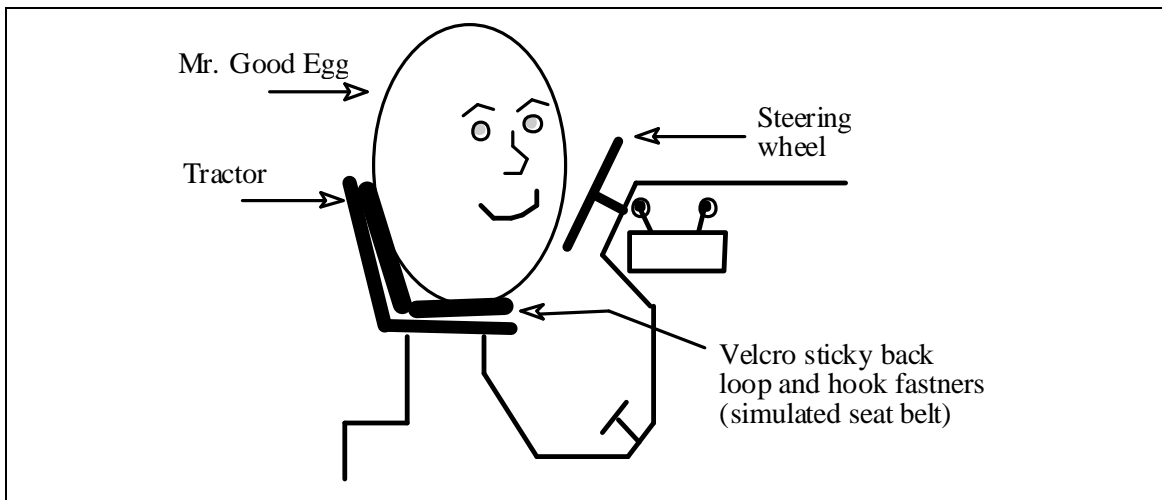

Figure 1: Details of model tractor seat, Velcro fasteners and hen's egg
1. *Two 1/16 scale model tractors, one with and one without a ROPS.* These models are available from farm supply stores and equipment dealers. Models of older tractors don't have ROPS but the models of newer tractors do. Select tractors of the same approximate size and weight. Avoid models with cabs. It is usually impossible to get the egg inside the cab. Select model tractors with enough room between the seat and the steering wheel so that a hen's egg can be seated on the tractor. See Figure 1 below.
3. *A package or two of Velcro® (or other brand) “Sticky Back” squares hook and loop fasteners.* These are two-part (hook and loop) 7/8 inch adhesive-backed squares used to hold picture frames or other objects against a wall or other surface. These fasteners can be purchased at a hardware store or general merchandise store. The fasteners simulate the seat belt and are used to hold the “belted” Mr. Good Egg Farmer to the ROPS-equipped model tractor seat as shown in Figure 1. The hook part of the fastener is stuck to the tractor seat. The loop side of the fastener is stuck to the egg.
- The Mr. Good Egg Farmers who drew the long straw get to ride the ROPS-equipped tractor and wear a simulated seat belt. Two squares of sticky-backed hook fasteners are first attached to the tractor seat bottom and back (see Figure 1). Two matching squares of sticky-backed loop fasteners are then stuck to the Mr. Good Egg Farmer's bottom and back. When the egg is pressed into place on the tractor seat, the fasteners act like a seat belt. They hold the egg firmly in place on the tractor seat. Turn the tractor upside down and shake it. If the egg is properly secured, it won't fall out. Next, run the tractor over and off the side of the platform just as was done in the previous demonstrations. This time when the tractor overturns, the Mr. Good Egg Farmer is undamaged because it stays in the tractor seat and within the frame of safety provided by the ROPS. Be sure to ask the participants to examine closely the ROPS and egg. Make sure they see that the egg is not in contact with the tabletop when the tractor is overturned. Allow the participants to roll the tractor over and upside down on the tabletop a number of times so they can see how the ROPS and seat belt hold the egg in the frame of safety provided by the ROPS.